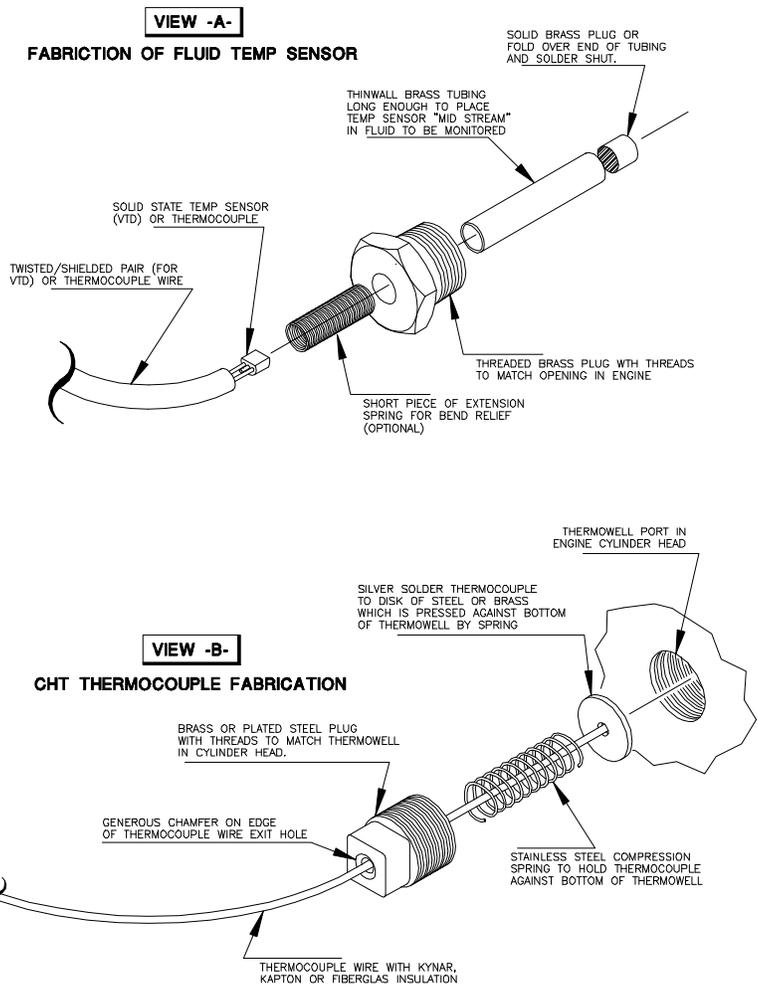

Figure 14-15. Thermowells for Temperature Sensing.
Most access to water or oil flow in an engine is through tapered, pipe-thread openings. The plumbing department of a well stocked hardware store will yield a brass plug the proper size to fit your engine's oil or water temp sensor opening. Good thermal contact of your temperature sensor (thermistor, thermocouple or solid state) with the fluid being monitored is essential. The usual technique calls for fabricating a "thermowell." A thermowell is illustrated in Figure 14-15. Actually, about every temperature transducer (or sender) is a form of thermowell. The purposes of a thermowell are (1) to extend into a liquid far enough to measure its temperature in the main fluid flow and (2) get as much thermal isolation as possible from the surrounding environment (crankcase, etc.). The thermowell I like to build is illustrated in Figure 14-15. It is fabricated from a brass plug through which I drill a 1/4" hole. A piece of thin-wall, brass tubing is soldered into the plug. The length of the tubing is that which is judged to place the sensor into free flow of fluid inside the engine. The sensor end is squeezed shut and soldered. The sensor is then cemented or soldered into the bottom of the "well." Silicon sealant around